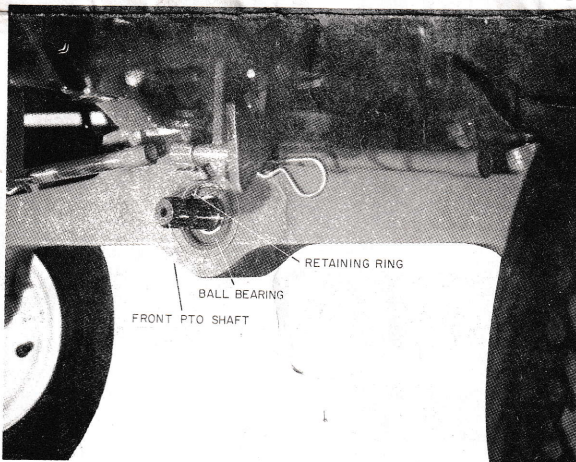

Figure 2
2. From the other side of the axle, install the shaft (long end to rear) through the bearing. Install the other bearing and secure it in place with retaining ring. See Figures 2 and 3.